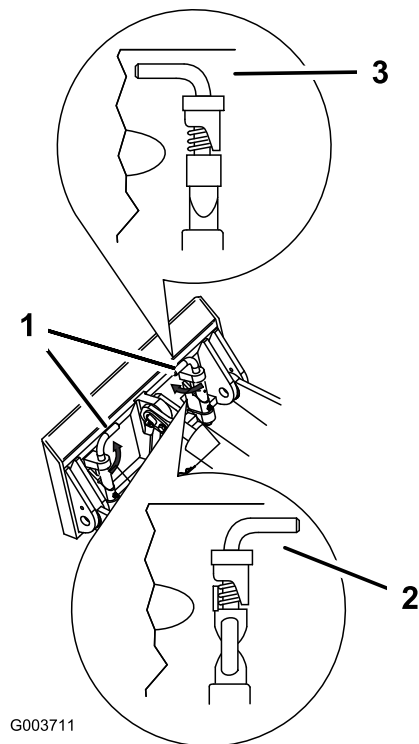

Figure 34
7. Engage the quick attach pins, ensuring that they are fully seated in the mount plate (Figure 34).